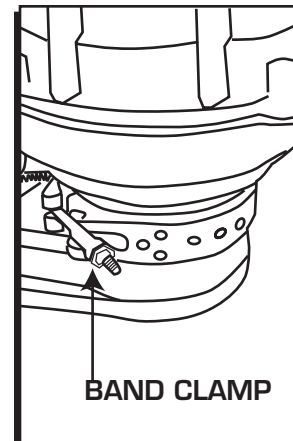

**Figure 5 Adjusting the Belt Tension.**
4. With the rotor tip aligned, adjust the tension of the distributor drive belt. This is adjusted with the three bolts on the back of the housing (Figure 5). Squeeze the belt in the middle until there is about one inch between the belt with light pressure.